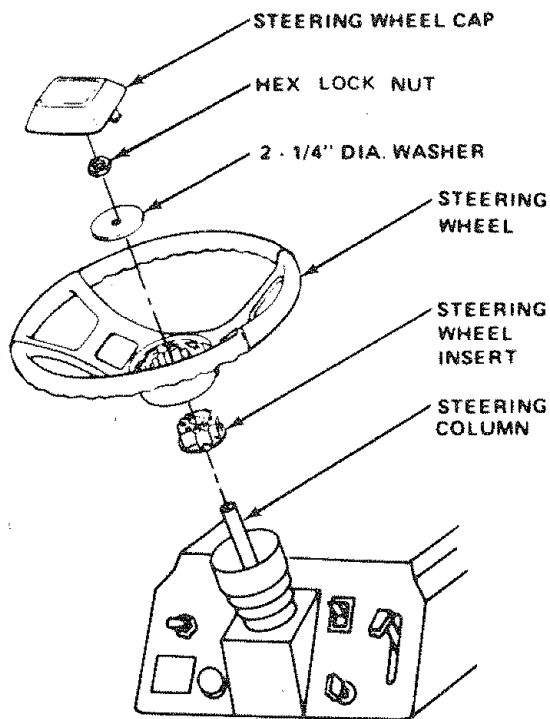

FIGURE 3
- b. Place seat on seat pan. Screw adjustment knob and flat washer into seat (Fig. 3). Screw shoulder bolt into seat (Fig. 3). Adjustment knob, shoulder bolt and washers found in bag of parts (shown full size on page 6).
a. Use a 3/4" wrench to remove lock nut, and 2 - 1/4" diameter washer (shown full size below) from steering column (Fig. 3).
- b. Position steering wheel over steering wheel insert (Fig. 3). BARS OF STEERING WHEEL SHOULD POINT STRAIGHT ACROSS TRACTOR.
- c. Secure steering wheel to steering column using 2-1/4" diameter washer and lock nut (Fig. 3). Torque to 68 N-m (50 Ft. Lbs.)